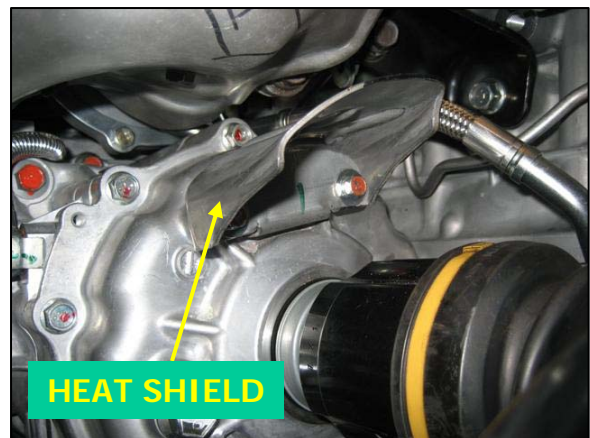

Fig. 18
20. Remove the heat shield above the passenger-side inner driveshaft boot. This part will be trimmed in a later step (48) and reused (2 bolts, 10mm socket). See figure 18.